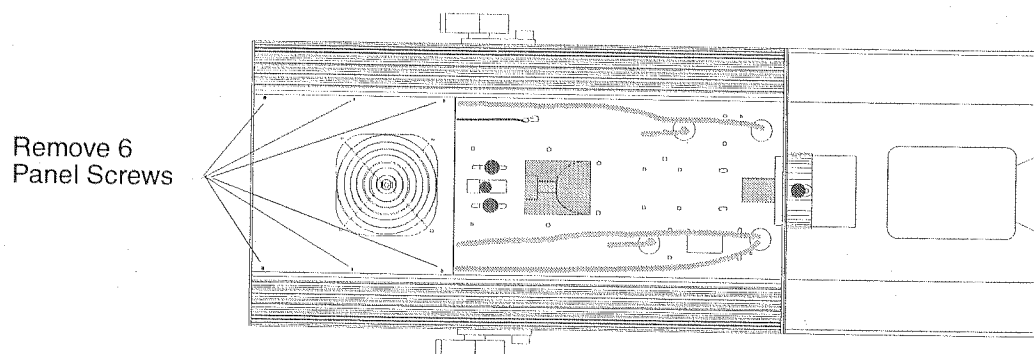

Figure 8.6. Removing Bottom Air Inlet Panel
5. Next, remove the bottom air inlet panel. The panel is held in place by six 9.5mm (3/8 inch) long, 6-32 screws. These Phillips pan screws have “B” point ends to help prevent stripping. Remove the six screws and set the panel aside. Refer to Figure 8.6.